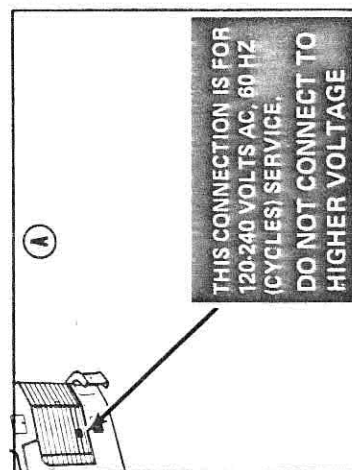

Figure 39-1. AC Operated Domestic Components and Outlets
a. General (Figures 39-1 and 39-2). The coach incorporates AC and DC electrical systems supplying power for operation of the domestic components and to power outlets at various locations in the coach. Major components of the domestic electrical power system are the Auxiliary Power Unit (APU), service line, AC-to-DC converter, and two six-volt batteries connected in series to provide 12 VDC.
handle moves (flips) to the "OFF" position. Reset is accomplished by repositioning the switch handle to "ON". The reason for circuit breaker tripping should always be determined and corrected before resetting to "ON". In addition to the circuit breakers and fusible units, the box also contains two bus bars; "SN" (solid neutral) and "GB" (ground bus). Each 30 amp breaker line branches into two 20 amp fusible unit lines to deliver AC power to outlets and components shown in figure 39-1.
(3) AC Service Line. A 25-foot, flexible, insulated service line (sometimes referred to as "land line" or "power cord") is incorporated in the coach and is coiled around a holding bracket as shown in figure 39-1. The 50 ampere rated service line connects into the coach AC electrical system through the power control relay (contactor) located in the 110 VAC power control box. The opposite end of the service line incorporates a 3-pole, 4-wire grounding-type plug (three current-carrying blades and a ground pin) rated at 50 amperes, 125/250 VAC, for attachment to an external 50 amperes, 125/250 VAC power supply receptacle to permit hook-up and operation of the domestic electrical system from an external city or campsite power source. When using, uncoil only enough of the service line required to reach the supply receptacle.
(4) Auxiliary Power Unit (APU). The auxiliary power unit (APU) is mounted at the rear left of the coach to the left of the automotive power plant (fig. 39-1). This group includes coverage of the